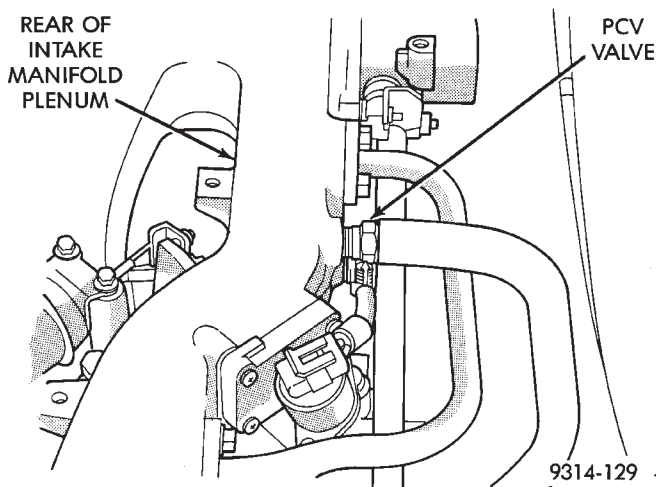

Fig. 26 PCV Valve—3.5L Engine
- (1) Warm engine in Park or Neutral until the cooling fan has cycled on and off at least once.
- (2) Ensure that all accessories are off.
- (3) Shut off engine.
- (4) Disconnect the PCV valve hose from the PCV valve (Fig. 26). Cap the PCV valve.